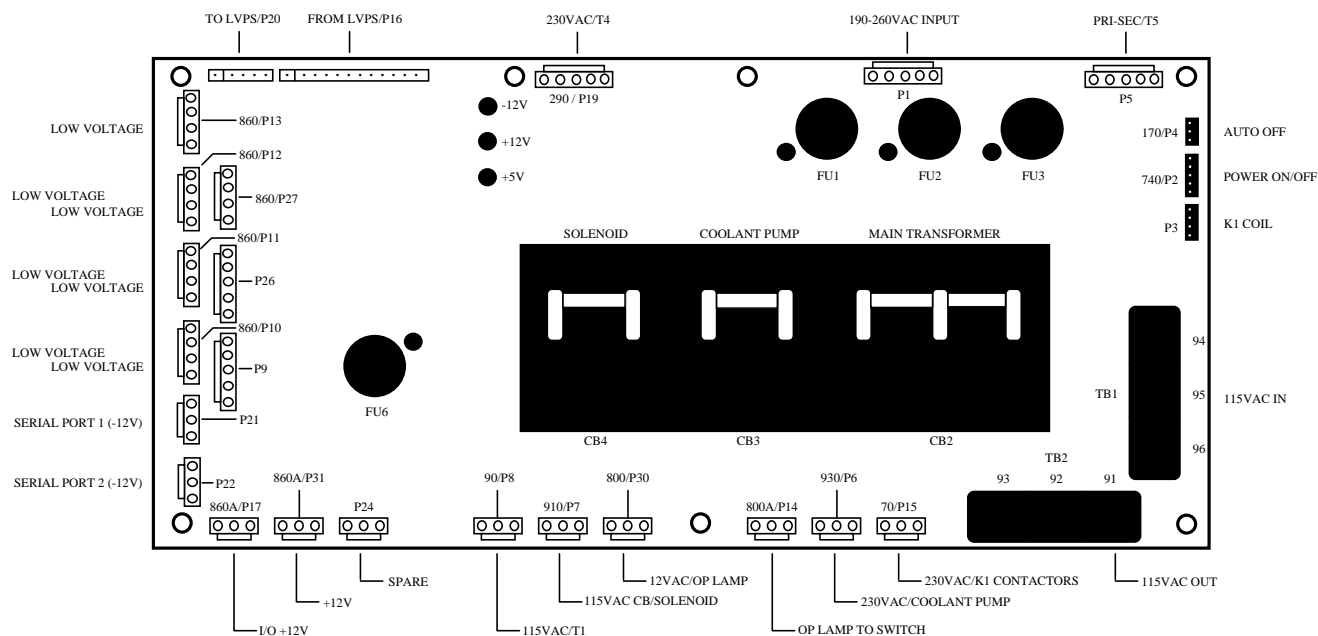

Fig. 4-7 Power Distribution (POWER) board.
7. Reconnect all cables to the POWER board at their proper location (refer to Fig. 4-7).